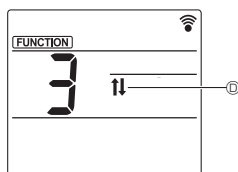

Fig. 5-3
- In the Function setting screen, press the **DOWN** button ④ and select function No. "3".
- Press the **SET** button ③.
- The ascending/descending mark ① blinks. (Fig. 5-3)
- Press the **DOWN** button ④ or the **CANCEL** button ⑤.